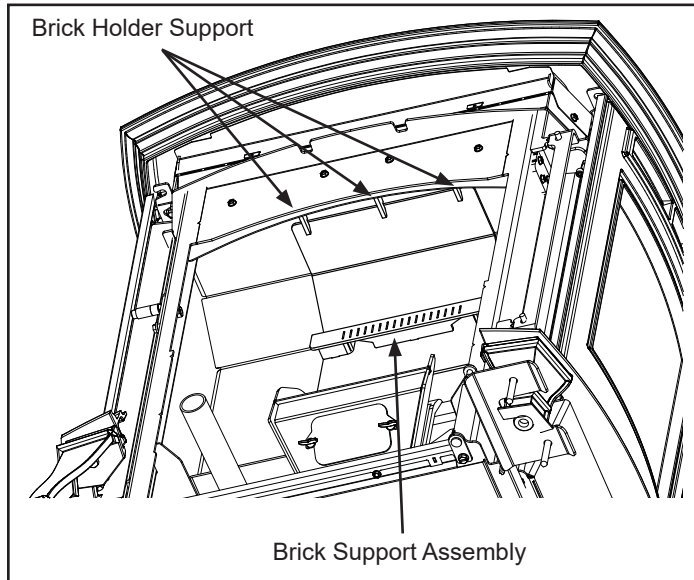

Figure 5.3
To install the firebrick you must first install the brick support assembly located in the ashpan. The brick support assembly must slide within the (3) brick support holders located at the top of the firbox. Figure 5.3.